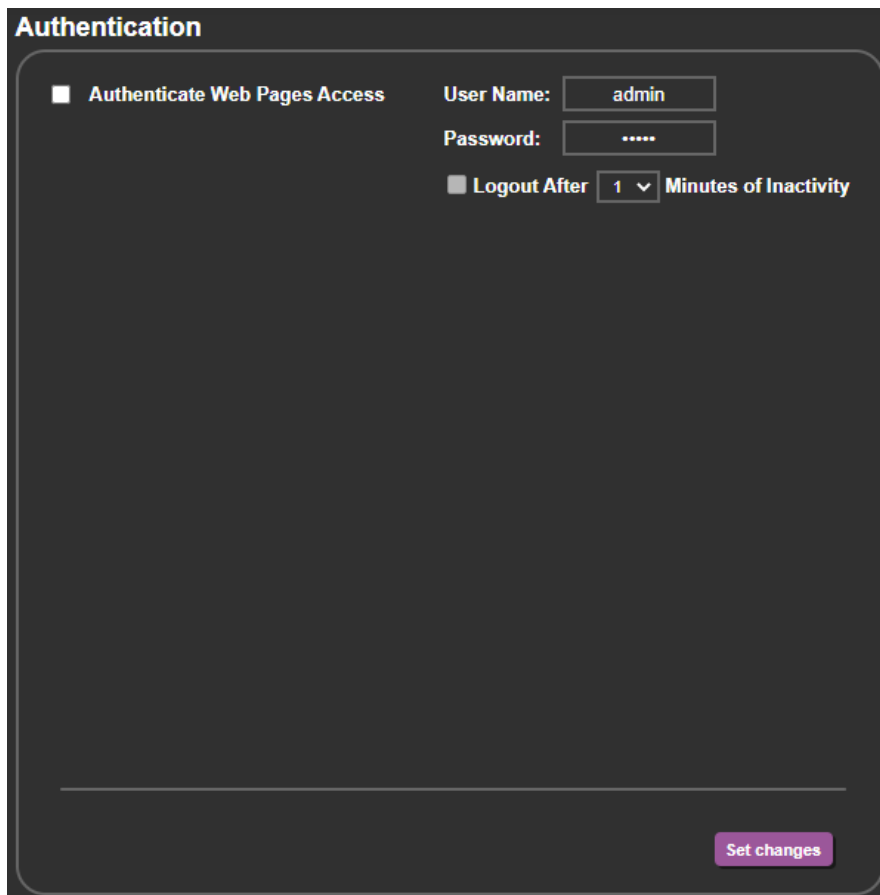

Figure 44: Authentication Page
1. In the Navigation pane, click **Authentication**. The Authentication page appears (see Figure 44).